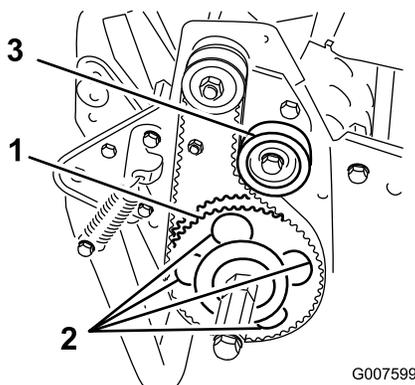

Figure 44
7. Rotate the driven pulley until the holes align with the 4 roller bearing flange screws (Figure 44).
11. Adjust the belt tension and tighten the idler pulley mounting screw (Figure 44).